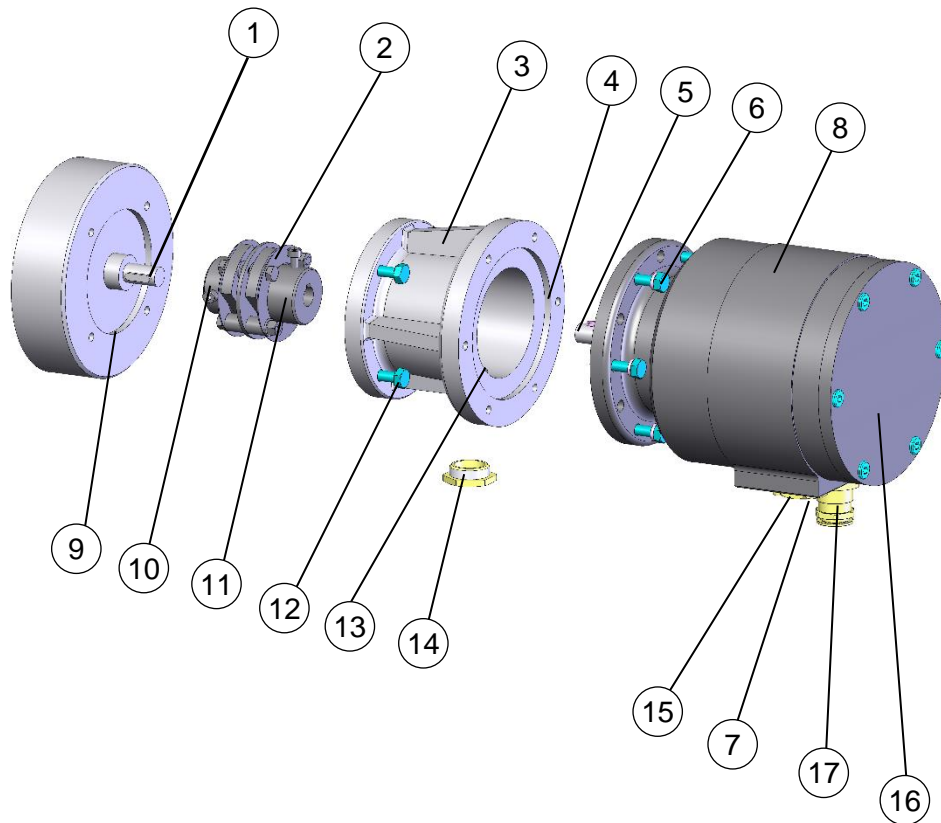

Fig. 1: Ex FG 40 construction type
1. Open the housing cover (16 Fig. 1).
8. Secure earth cable to earth terminal (7, Fig.1 see dimension drawing HM 15 M 108631b).